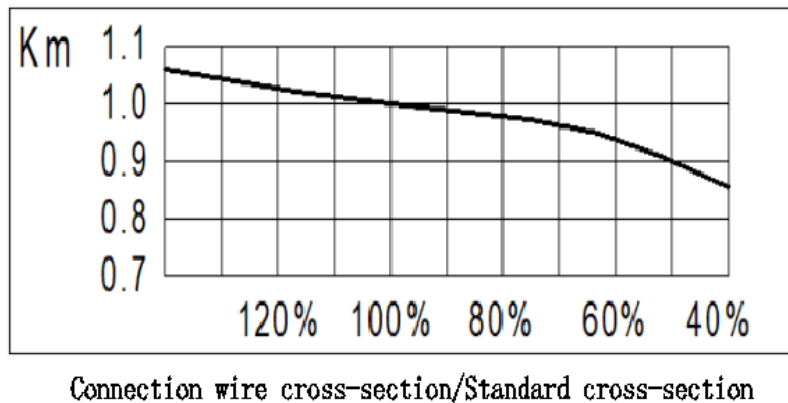
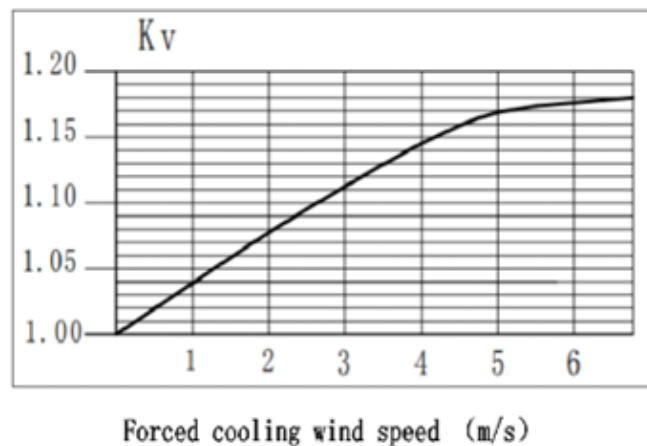

Figure 2, Km---Correction coefficient of connection section area
Figure 3: Correction factor for wind speed and rated current— $K_v$
Note:  $K_t$  is shown in Figure 1;  $K_s$  see Table 3;  $K_m$ ,  $K_n$ ,  $K_v$ , and  $K_w$  are shown in Figure 2, Table 6, Figure 3, and 7.4.7.2, respectively
7.2.3.2、 for example: the ambient temperature of a certain use occasion is 20°C, the rated current of the ZTR340/500A fuse is selected  $I_n=500A$ , and the above fuse is applied in a high temperature environment of +70 °C, the working current must be additionally reduced, from the correction curve of the ambient temperature of Figure 2 - the carrying current of the fuse, it is shown that when +70 °C, the correction coefficient  $K_t=0.73$ , in order to ensure that the fuse does not malfunction The rated current value of the fuse should be reselected:  $I_e=500A/ 0.73 = 685A$ , selected according to the standard current level of the fuse:  $I_n=700A$ .
Km See Figure 2, the ratio of applied conductor cross-sectional area / standard cross-sectional area is 80%-120%, the effect can be ignored:
The use of forced air cooling can increase the heat dissipation of the fuse, can increase the rated current of the fuse, and the cooling effect is affected by the wind speed, air flow angle, heat dissipation area, heat dissipation power, fuse structural parameters, etc. The correction factor for wind speed and rated current— $K_v$ —is shown in Figure 3.